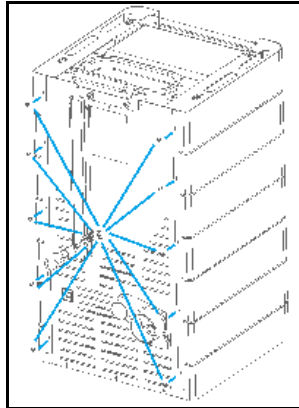

Figure 23 - Attaching the side casings
e) Secure the side casings to the back of the unit using 10 screws from the kit, as shown in Figure 23.